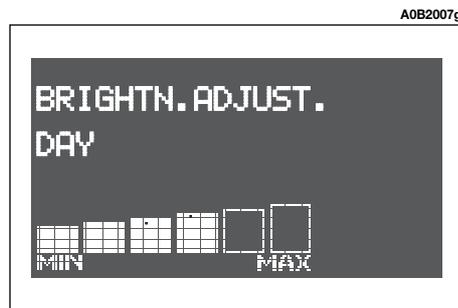

fig. 80
– if the outside lights are off, the message BRIGHTN. ADJUST. DAY will appear on the display (fig. 80).